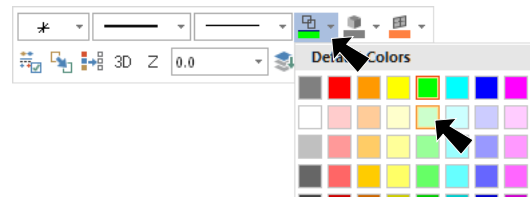

Fig. 33
- Step 1. Sketch **switch** light green. **Right click** in the graphics window and on the Mini Toolbar click **Wireframe Color**  drop down arrow and select **light green**, Fig. 33.